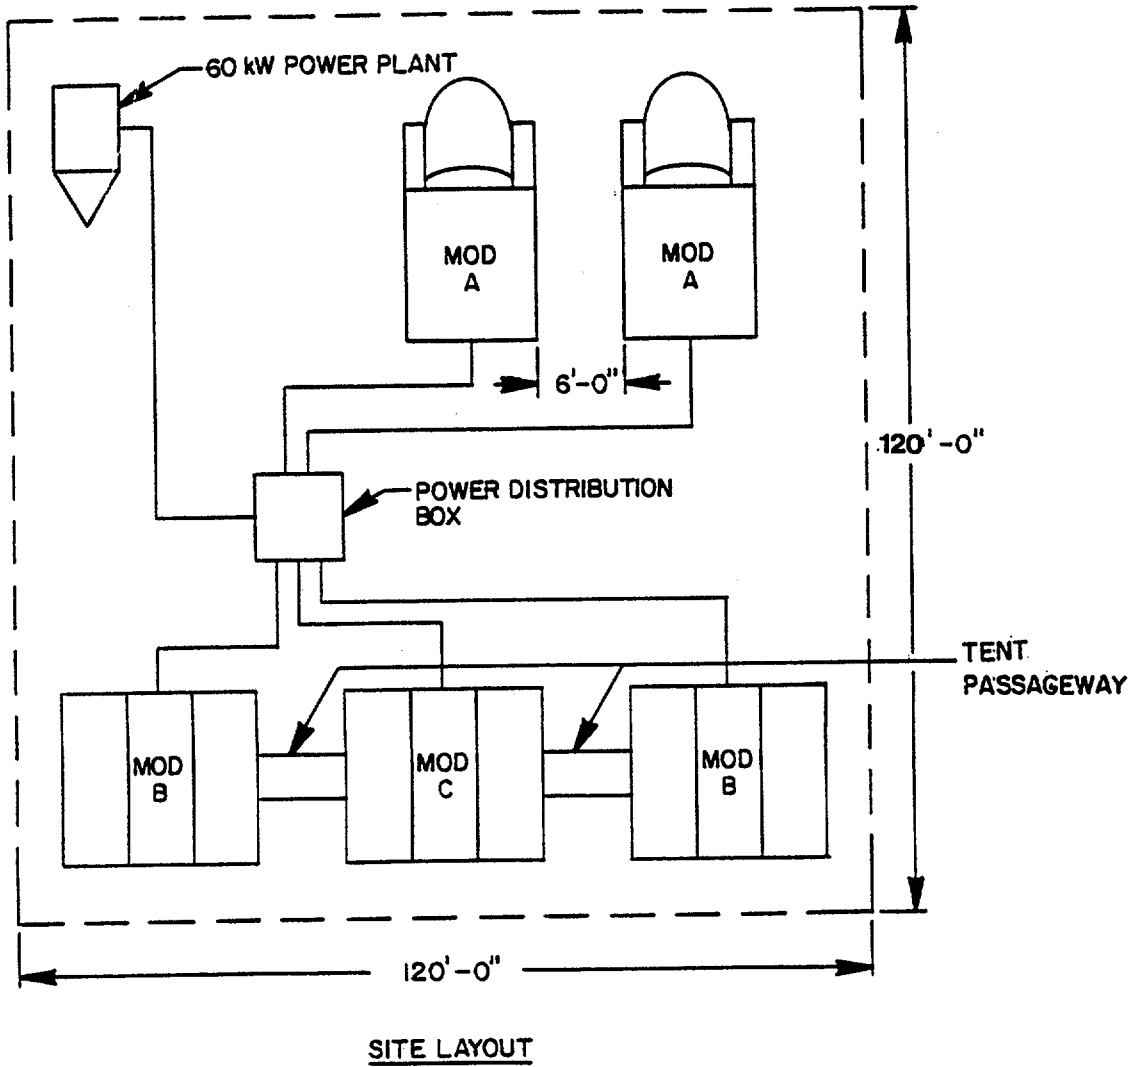

Figure 2-11. Site Layout
- a. Site Selection. Refer to Figure 2-11 for a typical setup of the MPS system. The site selected should be as follows:
- (1) Terrain slope can be no more than 8 inches over the 120 foot depth or width of the site.
- (2) Module B and C unexpanded shelters must be positioned no less than 232 inches apart and no more than 241 inches apart.
- (3) Module B and C expanded shelters must be no less than 66 inches apart and no more than 75 inches apart.
- (4) Site should allow for a reasonable maneuvering area around the equipment.
- (5) Terrain should be firm, reasonably level, well drained and relatively free of large surface rocks.
- (1) Remove power distribution box from storage location next to islatrol control box and position in accordance with Figure 2-11 site layout.
- (2) Remove power cables from storage under air conditioners.